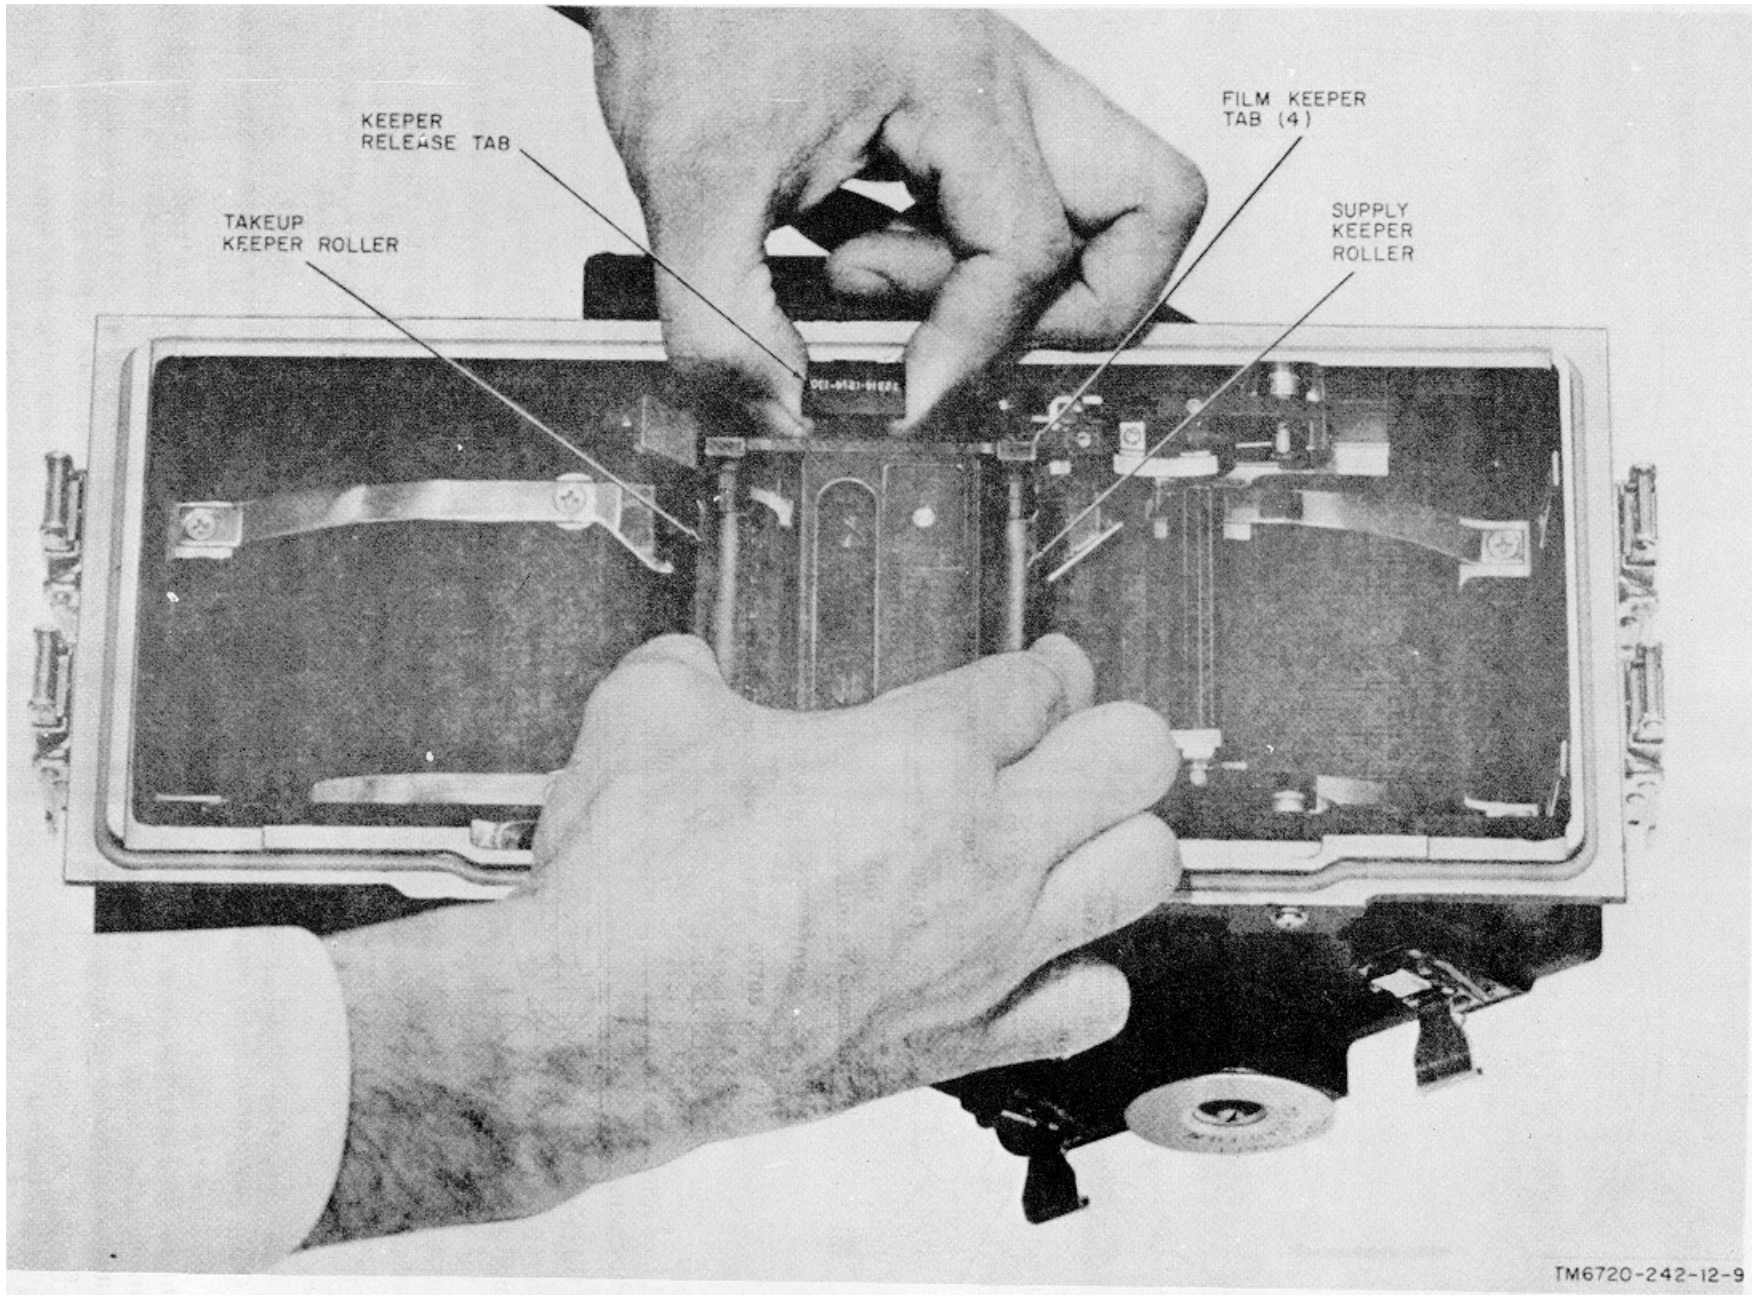

Figure 3-2. Pulling up keeper release tab.
- c. Pull the keeper release tab (fig. 3-2) upward until supply and takeup keepers rollers lock in open position.